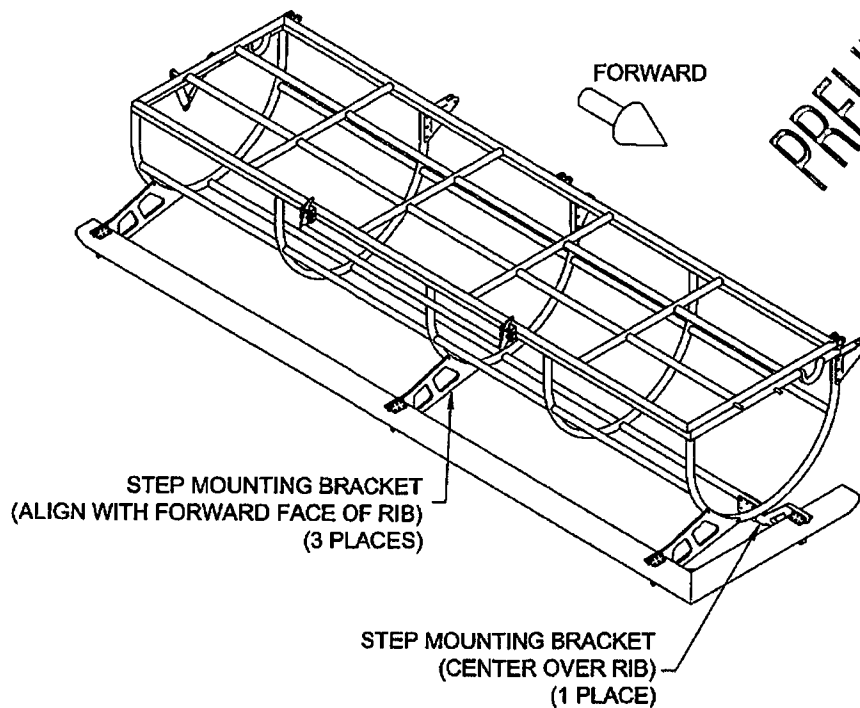

Figure 12 – Step Alignment
- 3.2.3 Align the D3724-041/-042 Step Assembly with the *Heli-Utility-Basket™* as shown in Figure 12. Transfer mark the mounting holes from the step mounting brackets to the basket ribs. Remove the step and drill the marked holes to $\phi 0.257$.